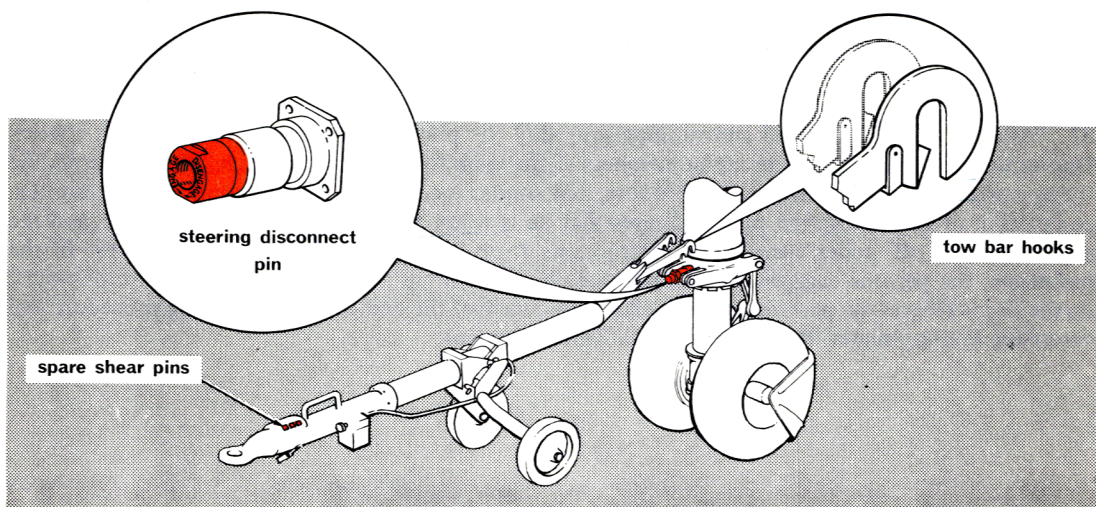

Fig. 17. Attachment of Tow Bar
29. **Towing the aircraft.** With all preparations and safety checks completed to the satisfaction of the supervising SNCO, each member of the handling party takes up his appointed station and the aircraft is made ready to move. Assuming that the aircraft is to be towed forward in the normal way by means of the aircraft nose wheel, the first step is to disconnect the nose wheel steering mechanism and attach the towing arm, fitted with the appropriate safety shear pin, to the nose wheel axle (Fig. 17). (In the